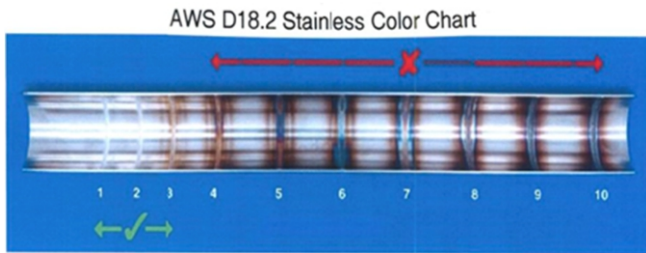

Fig. 12 : Discoloration chart
**Fig. 12** is a discoloration reference chart that relates the intensity of discoloration to the levels of residual oxygen present during welding. This could be because of a premature start of weld before all the atmospheric oxygen is purged.